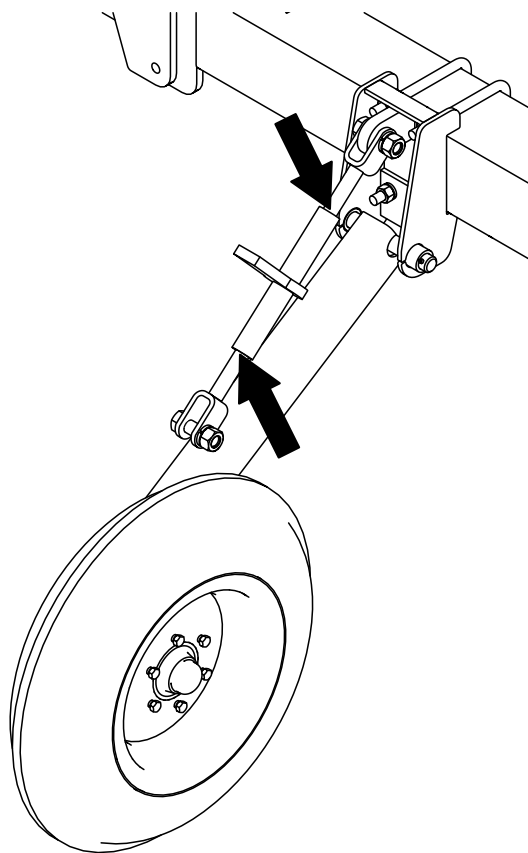

Figure 37 Guide Wheel Screw Jacks
2. Lubricate guide wheel screw jacks (Figure 37)
1. Repack all wheel bearings (Figure 37, 38, 39, 40, 42)